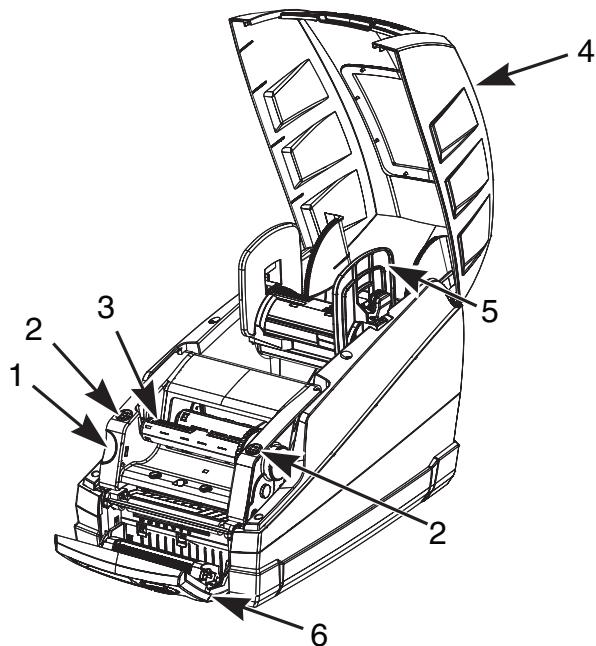

Figure 1, Brady IP Label Printer
- Open the label printer cover (**Figure 1, 4**).
1. Lift open the label printer cover (**Figure 1, 4**).
8. Close the printer cover (**Figure 1, 4**).